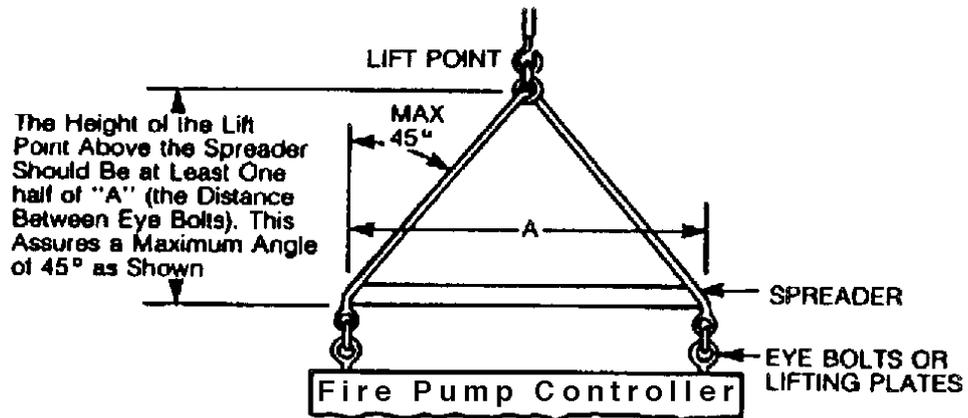
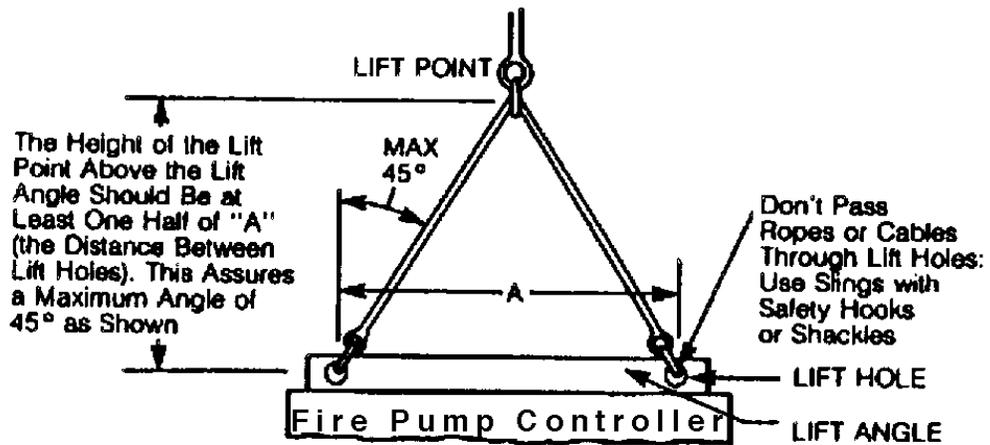

Figure 2-1
Figure 2-2
2.1.11 When a platform elevator is not available to move the fire pump controller between elevations, overhead hoisting may be used. Lifting plates and eye bolts (Figure 2-1) or channels, angles or bars with lift holes (Figure 2-2) may have been provided as a permanent or removable part of the fire pump controller.
2.1.12 Use spreaders (Figure 2-1) to provide the vertical lift or lifting plates and the eyebolts to avoid eyebolt or plate failure or crushing or both, or otherwise damaging the fire pump controller frame or its finish.
2.1.12.2 To reduce the stresses on the rigging or spreaders, do not allow the angle between the lifting cables and vertical to exceed 45 degrees (Figures 2-1 and 2-2).